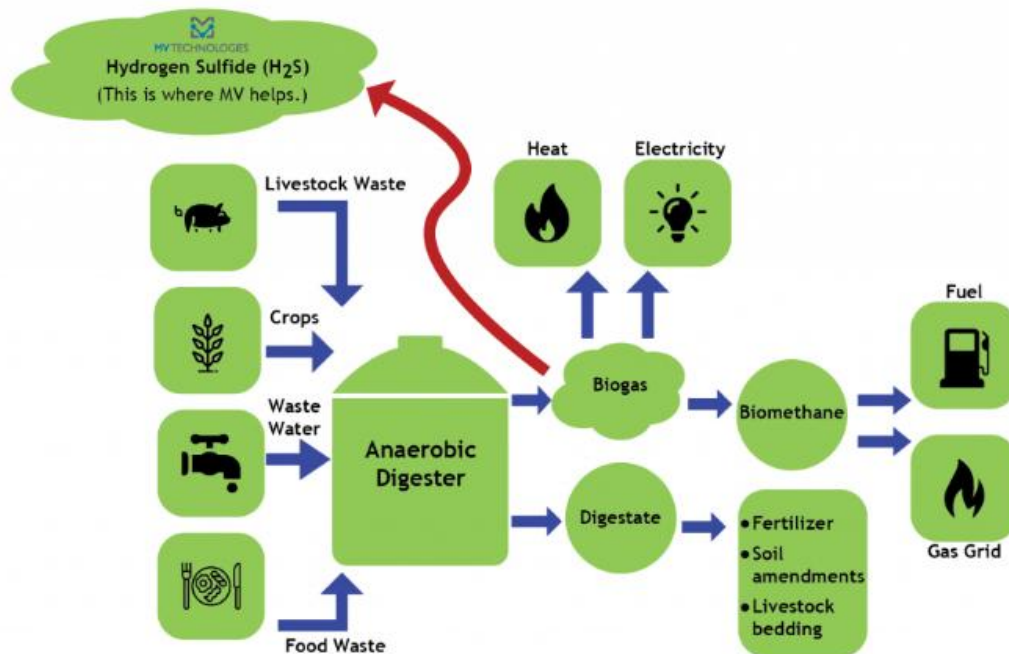

Figure-2: Anaerobic digestion.
- ✓ anaerobic digestion (AD) is the process by which organic materials in an enclosed vessel are broken down by micro-organisms, in the absence of oxygen (**Figure-2**)
- ✓ the main objective of anaerobic digestion (AD) is the degradation and destruction of organic substances, with consequent reduction of the odorous emissions and pathogens